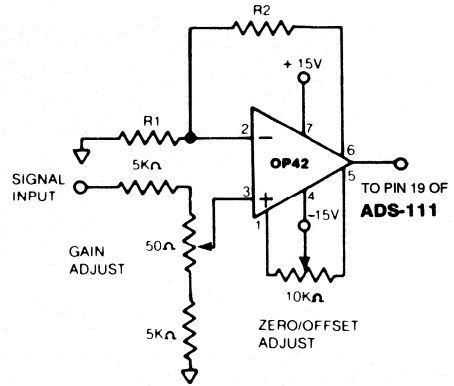

Figure 3. Optional Calibration Circuit
- Applications which are unaffected by endpoint errors or remove them through software will use the typical connections shown in Figure 4. Remove system errors or adjust the small initial errors of the ADS-111 to zero using the optional external circuitry shown in Figure 3. The external adjustment circuit has no affect on the throughput rate.
2. When the optional external adjustment circuitry is used, additional input ranges are available. Refer to Figure 3 and Table 4.
1. Connect the converter per Figure 3, Figure 4, and Table 2 for the appropriate full-scale range (FSR). Apply a pulse of 200 nanoseconds minimum to the START CONVERT input (pin 16) at a rate of 250 KHz. This rate is chosen to reduce flicker if LED's are used on the outputs for calibration purposes.